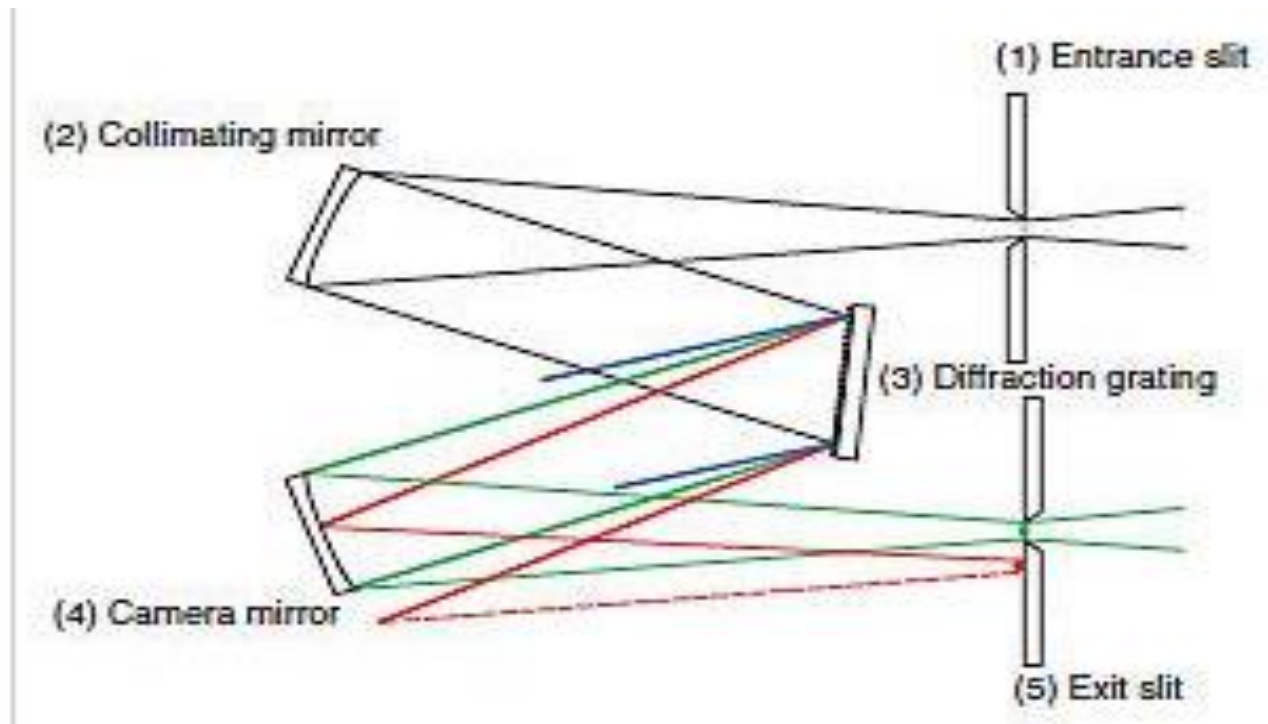

FIG.9.Monochromator components.
- It is a device that breaks the polychromatic radiation into component wavelengths. See figure 9.